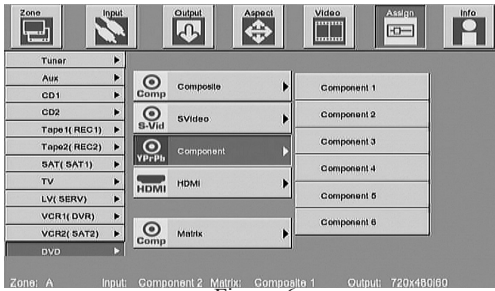

Figure 6
5. Press the ►RIGHT push-button once to select the type of video signal connection (HDMI, Component, S-Video or Composite). Then, using the ►RIGHT and ▼DOWN push-buttons select COMPONENT 1 (the Input Number of the Rear Panel Connector the DVD Player Component Video Output is connected to). Refer to figures 6 and 7.